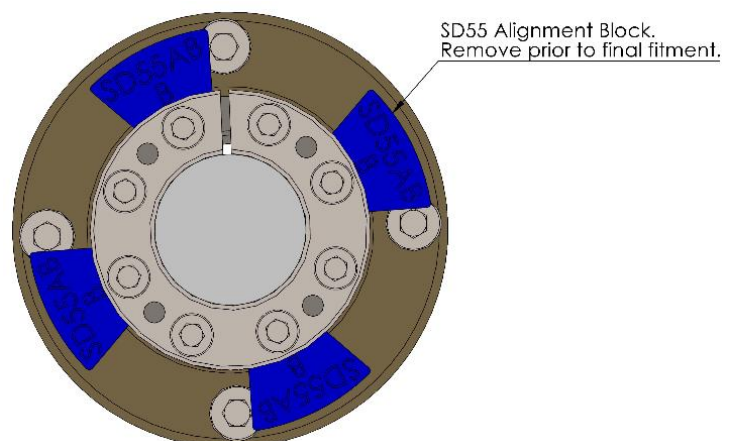
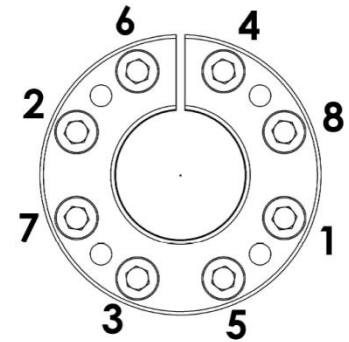

Fig 1. Aligmnet block.
Fig 3. Tightening Sequence
- Insert the clamp unit into the central sphere and loosely tighten the M6 taper locking bolts (9) using an allen key in a crossed sequence (see fig 3). If alignment blocks are not being used (see fig 1), then go to step 8.
- Use the alignment blocks to hold the clamp unit parallel. Insert the blocks evenly spaced under the clamp unit as per fig 1, and gently tighten the taper locking bolts (9), to sufficiently hold the alignment blocks in place. Do not torque the taper locking bolts (9) until alignment is complete and the alignment blocks have been removed. Proceed with normal alignment and fixing methods with propeller shaft and gearbox, taking care not to exceed the maximum working angle when centering Sigmadrive to gearbox output flange. Please go to step 9.
- Once the SigmaDrive is aligned with the gearbox flange. Fit the M10 Nyloc nuts (12) to the M10 high tensile studs (11) and tighten firmly to a torque of **45Nm**.
- Tighten the M6 taper locking bolts (9) in the sequence indicated in fig 3 at least 3 times by hand using an allen key.
- Tighten the M6 taper locking bolts (9) in the sequence indicated in fig 3 with a torque wrench to 10Nm, then 15Nm and finally 18Nm. Only tighten to required torque once. Do not exceed 18Nm of torque, this could make it difficult to remove if it is overtightened.